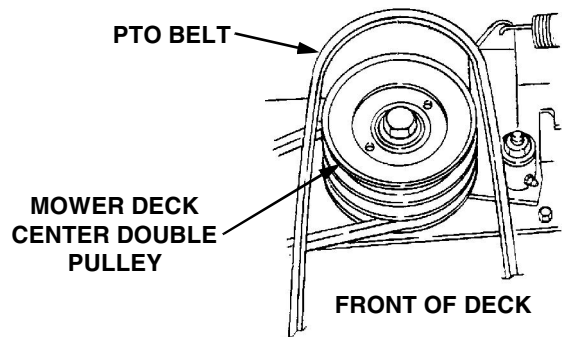
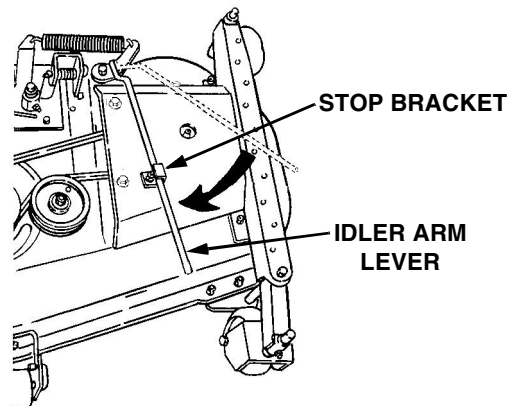

Figure 11
Figure 6-12
4. Remove the rearward end of the PTO belt from the upper pulley of the deck center double-pulley (Refer to Figure 11). Engage the deck idler arm lever back into its stop bracket (See Figure 6-12).